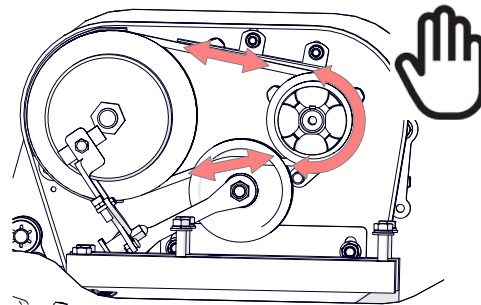
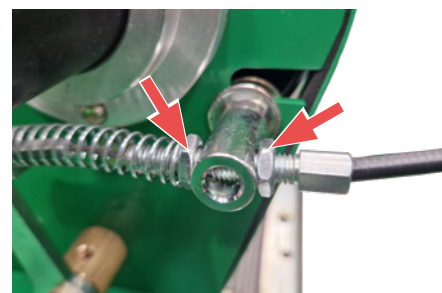

Fig. 17I - Check correct tension by moving the pulley by hand.
Fig. 17J - Tension by adjusting the nuts accordingly.
11. Engage the drive lever. Ensure that when the output shaft is turned (manually), the belt moves and turns the drive shaft pulley (Fig.17I). Adjust the tension of the cable and arm to achieve this (Fig.17J). Adjusting tension will also alter the engagement point of the drive lever/pulley, resulting in a quicker or slower acceleration - adjust to suit